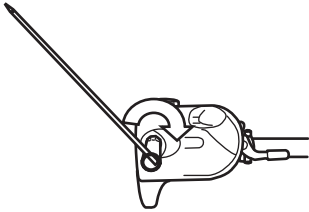

Fig. 7a
- c). Loosen locking nut (D3) with the socket wrench (F4) anticlockwise and remove it together with the spring washer (D4) and cover (D2). (See Fig. 7a, 7b)